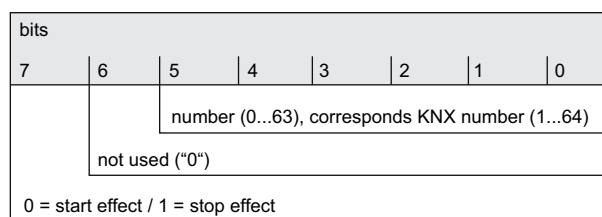

Figure 58: Structure of the object value for the effect extension
The structure of the telegram value for the effect extension is orientated to the KNX DPT 18.001, which is also used in the scene extension (figure 58).
- ❗ It should be noted that the object value of the extension input is always "1" less than the configured KNX number, in accordance with KNX DPT 18.001 (figure 58).